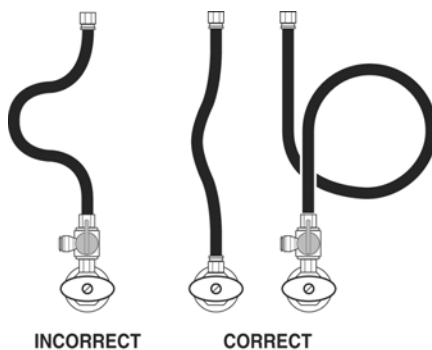

Figure 8: Flexible Hose Positions
- Caution:** A longer riser tube assembly will be required if a gentle loop cannot be made (See Figure 8).